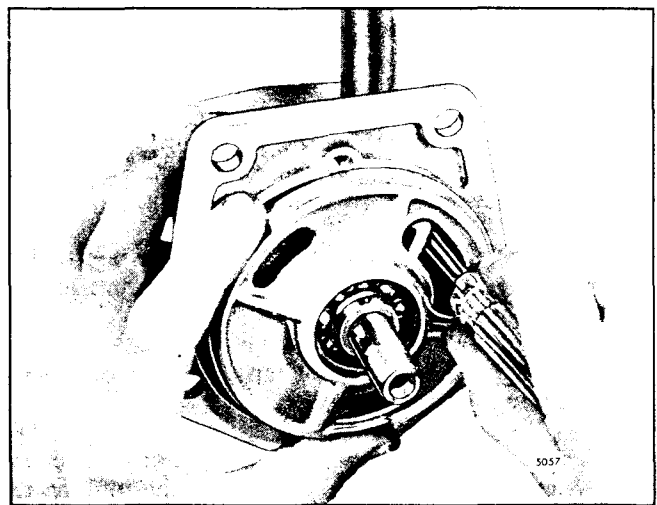

Fig. 5 - Removing or Installing Operating Shaft Fork
3. Turn the bearing retainer until the large opening is centered over the fork on the governor operating shaft (Fig. 5).